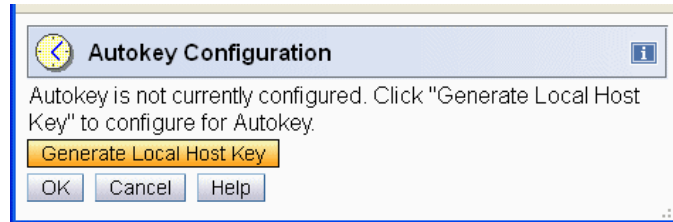
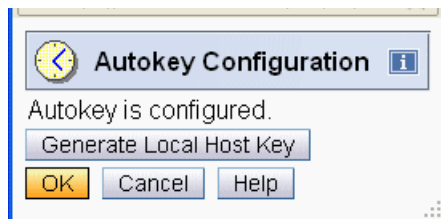

Figure 1-9 Generate the Local Host Key file on the HMC
Figure 1-11 Autokey is configured
2. In the Autokey Configuration panel select **Generate Local Hosts Key** to generate and store the local key file and certificate for this HMC (Figure 1-9). This needs to be done only once. If the Autokey Configuration panel shows an Autokey is already configured as shown in Figure 1-11, it basically means that an autokey was previously already configured. A new Local Host Key file can be generated any time.
4. The Autokey has been successfully configured as shown in Figure 1-11. Select **OK** to leave the Autokey Configuration display.